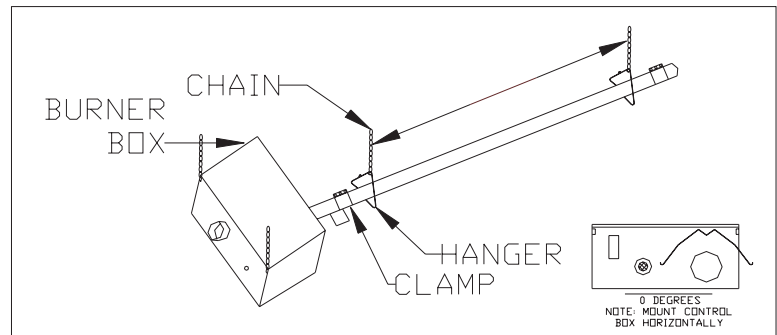

Figure 2.3.2
3. The burner box must be installed so that it is level and the burner sight glass visible from the floor. Figure 2.3.2
4. The two hangers supporting the first 10 ft. or 3 m tube must be installed near the ends of the tube next to the clamps. It is recommended that the remaining hangers be installed approximately 10 ft. or 3 m apart. Figure 2.3.2